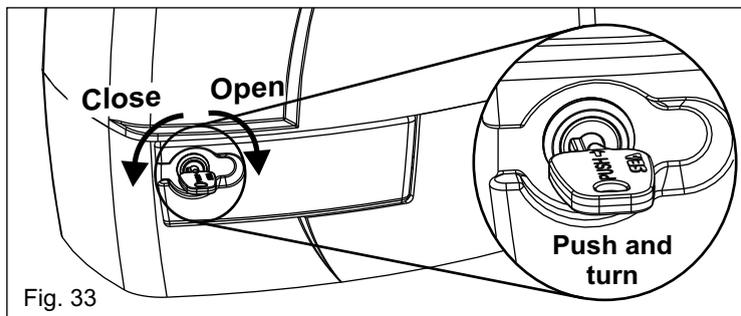

Fig. 33
- Insert the key, **push** and turn about 90° clockwise (Fig. 33).